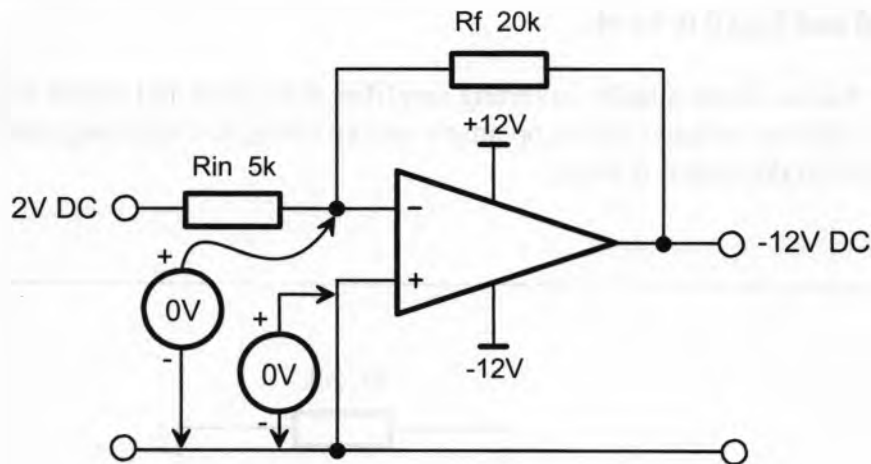

Figure 3
15. Figure 3 below shows a faulty inverting amplifier with input and output voltages shown together with the voltages on the op amp's non-inverting and inverting pins. State what component in the circuit is faulty and what's wrong with it.